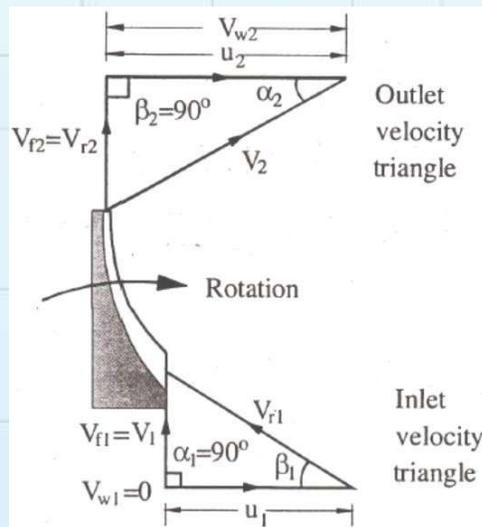

Fig.7.7 – Velocity diagrams of centrifugal compressor when $\alpha_1 = 90^\circ$ and $\beta_2 = 90^\circ$
- ▶ The velocity diagrams at inlet and outlet of the impeller of a centrifugal compressor (assuming no pre-whirl and no slip) is shown in Fig. 7.7 and 7.8.